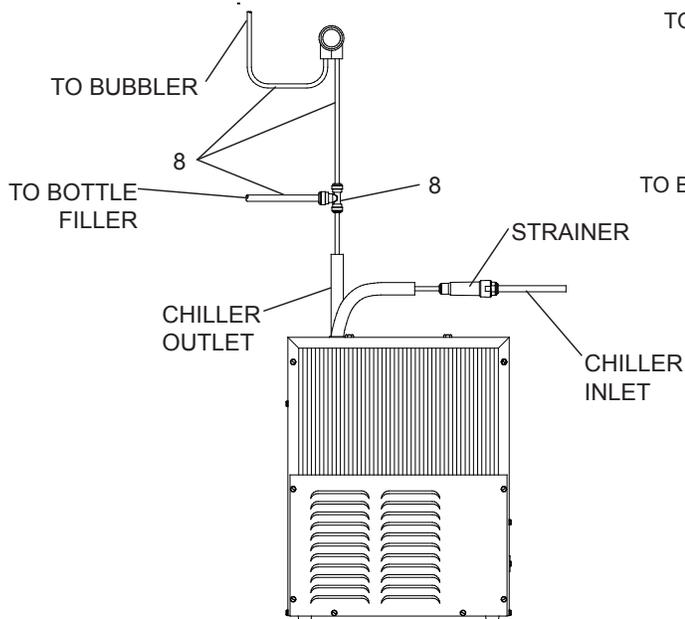

Figure 5 – EZWS-ERP8-RF Tube Routing
5. **(For EZWS-ERP8-RF)** Verify that a strainer is installed on the water supply line to the chiller (Fig 5).